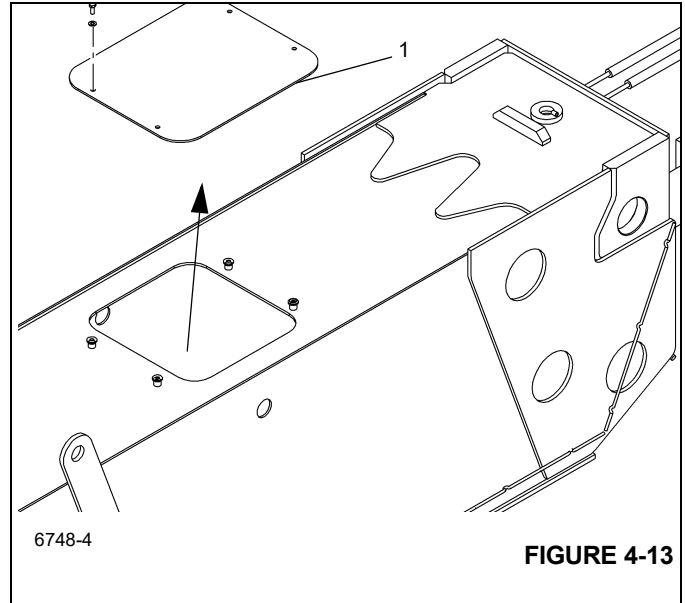
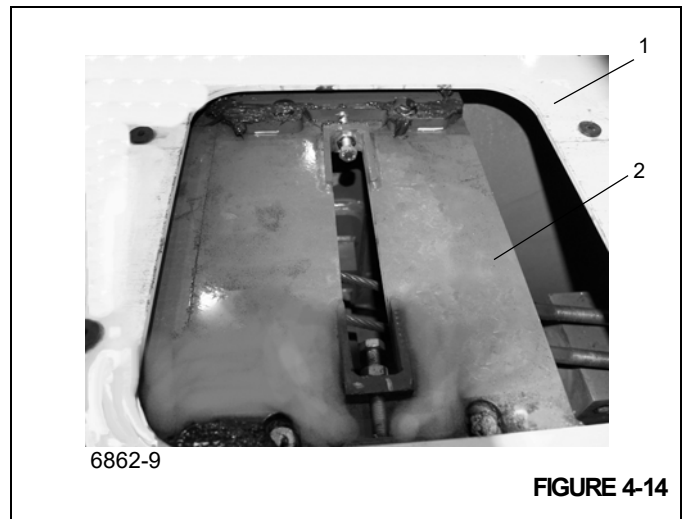

FIGURE 4-13
FIGURE 4-14
1. Remove the access cover (1), (Figure 4-13) on the top rear of the base section. Slide the assembly out of the base section (1), (Figure 4-14) enough to gain access to the top rear adjustable wear pads on the inner midsection (2), (Figure 4-14).